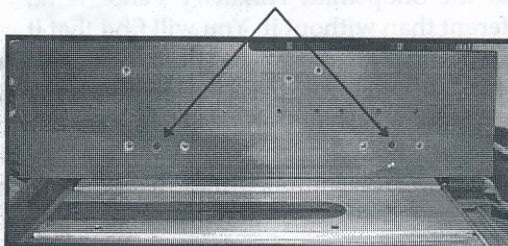

Figure 1
1. For Mark V 520 owners, insert a 3/4" screw (10) and flat washer (9) through the 2 center holes, refer to Figure 1.